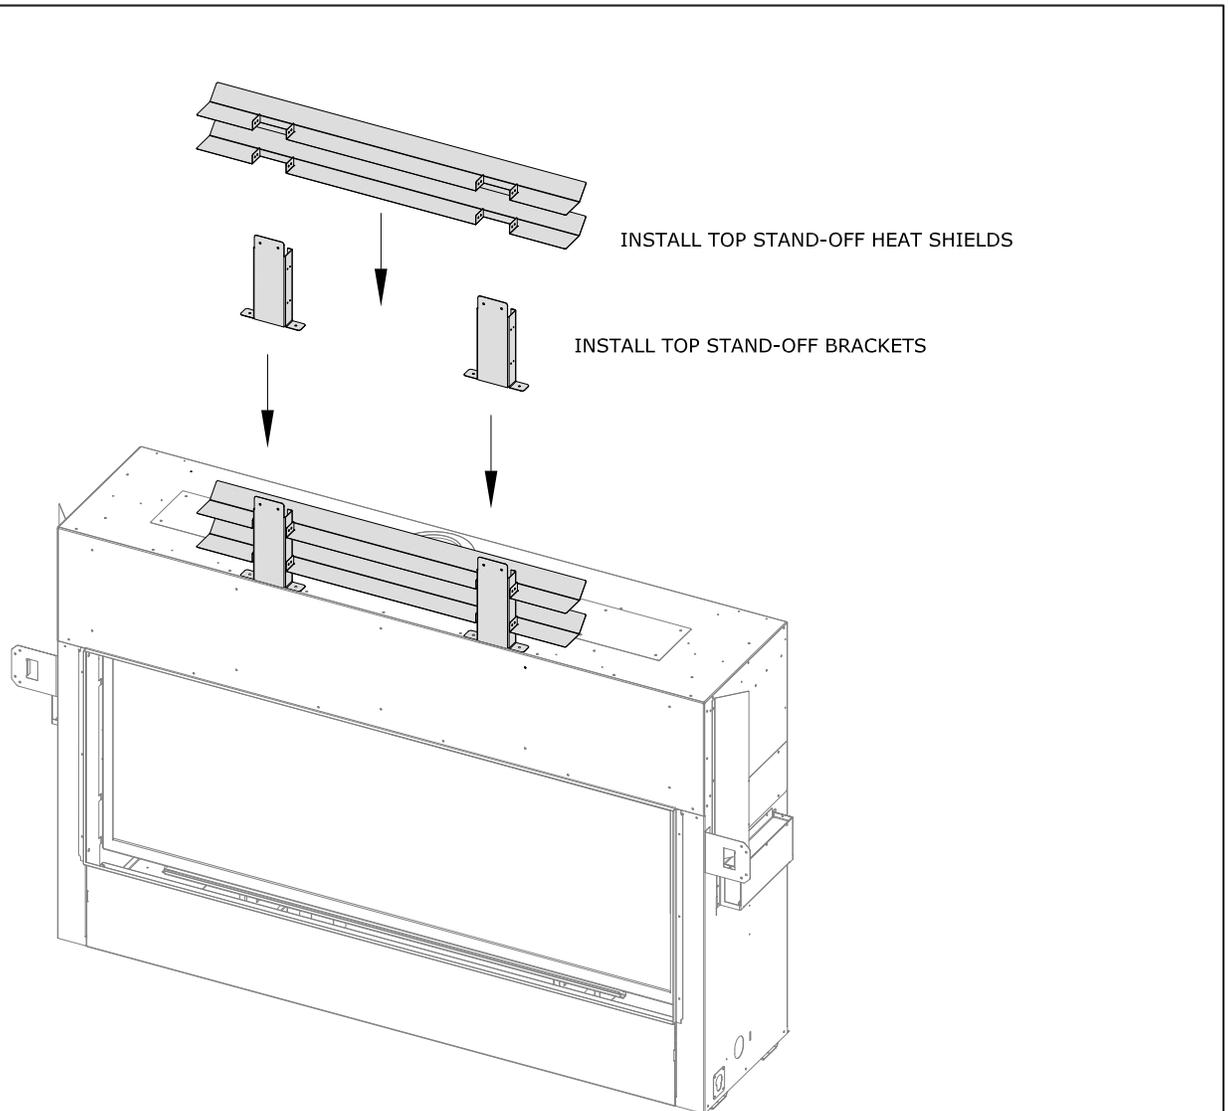

Figure 3.2 - Stand-Off Installation
2. Attach the top stand-off brackets with (4) screws to the top of the fireplace as shown in Figure 3.2.
4. Attach the horizontal heat shields to the top stand-off brackets with the (8) screws as shown in Figure 3.2.